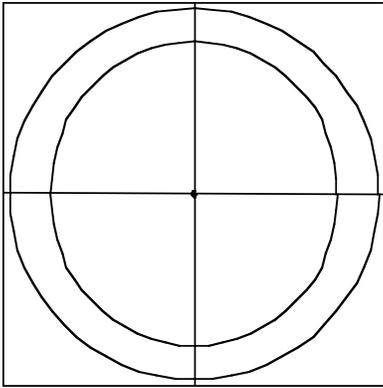

Fig. 1 – Quartered face with 2 circles
7. Using a compass, draw a second circle on the blank with center at the center of the blank and radius a bit larger than the minimum radius computed in step 6. This circle defines the amount of scalloping you can achieve – the larger the diameter of the inner circle, the less pronounced the scalloping will be. (Fig 1)